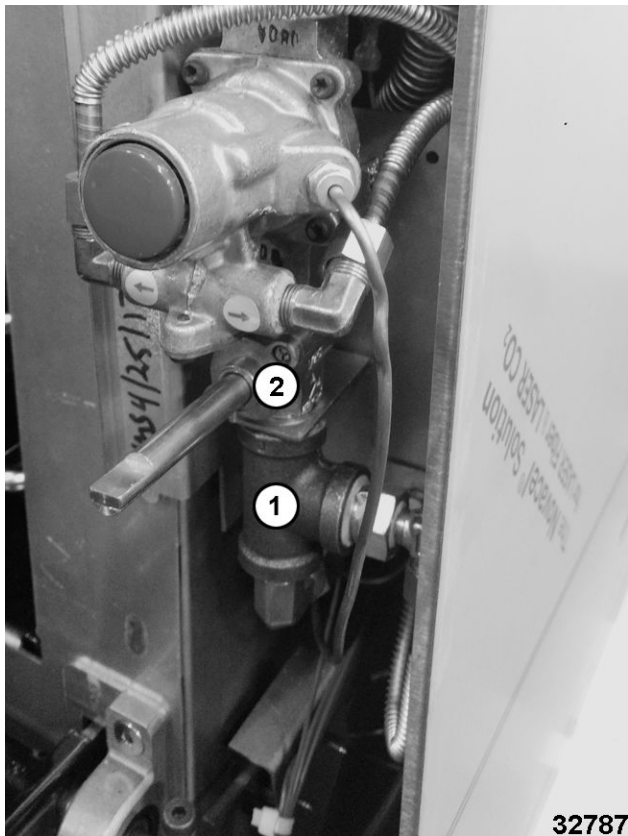

Fig. 41
3. Remove flex line and tee fitting (1, Fig. 41) from bottom of manual gas shut-off valve (2, Fig. 41).